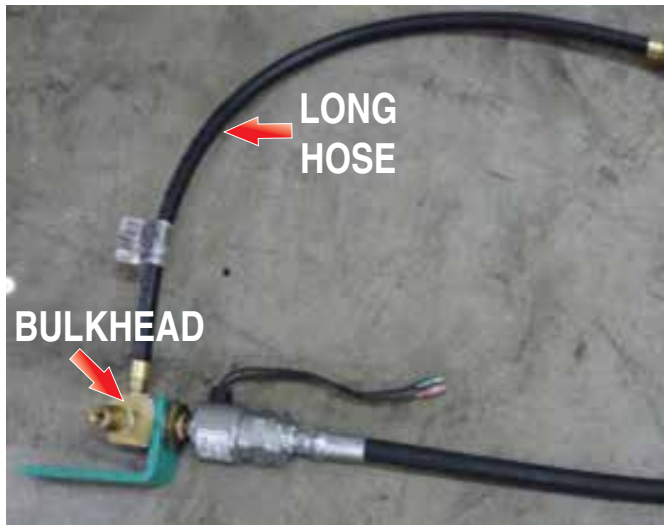

Figure 18. Connecting Hose to Safety Lock-Off Valve Assembly (Bulkhead)
13. Connect the longer hose (P/N 46302) to the bulkhead side of the safety lock-off valve assembly (Figure 18), and tighten securely.